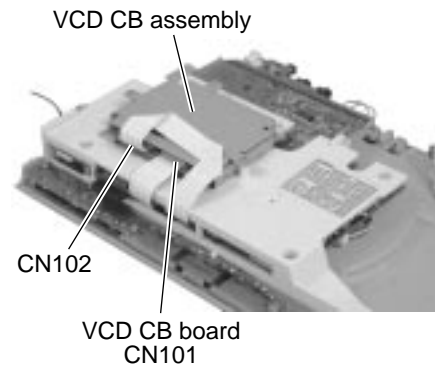

Fig.30
■ Removing the VCD CB assembly / VCD CB board (See Fig.30 to 33)
3. Release the six joints **c** of the VCD shilde (L) and VCD shilde (U), then remove the VCD shilde (L) in the direction of the arrow.
4. Remove the VCD CB board from the VCD shilde (U).